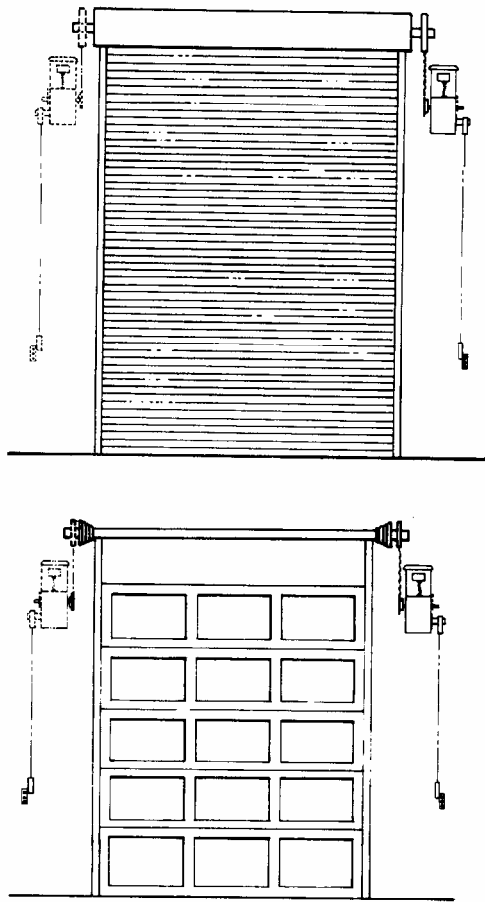

Figure 2
1. Figures 2 and 3, page 6 illustrates several positions suitable for mounting the operator; right hand or left hand wall mount or horizontal (shelf) mount to the torsion shaft. For sectional doors, the MG operator must be wall mounted. For rolling steel doors the operator may be wall mounted or hood mounted by using an optional hood mounting bracket, [14]. A wall mounting plate [15] is also available from the factory (see Figure 1). The mounting plate/bracket provides for chain tension adjustment as well as aiding installation.